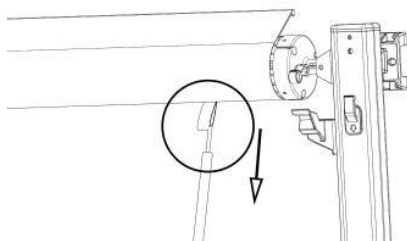

Figure D3
3. Fit the pull wand over the roller pull belt and pull the awning outward. (Figure D3)